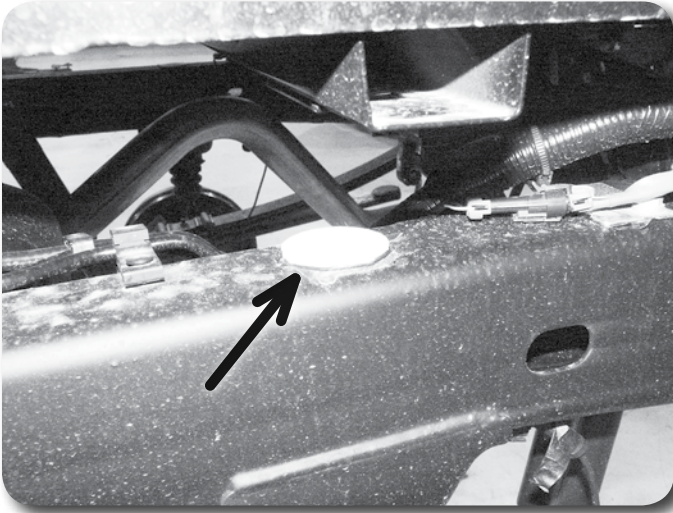
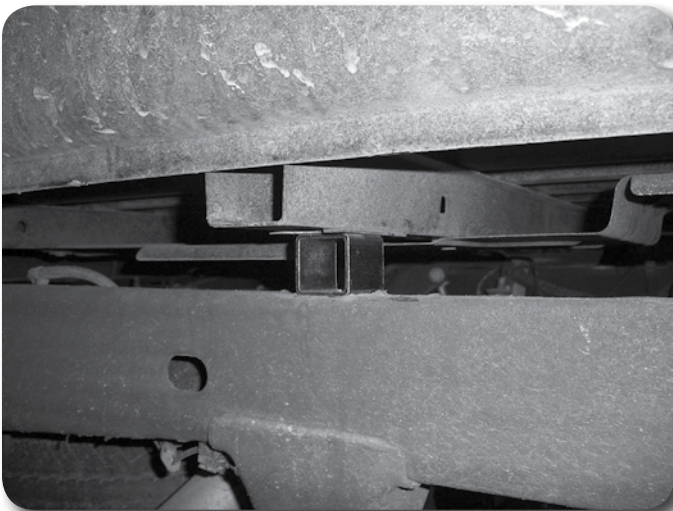

Figure 23A
Figure 23B
4. Remove the plastic bed pads **Figure 23A** where the bed crossmember rested on the frame at the rear wheel well (one per side). Install the provided rectangular steel bed spacers where the plastic pads were located and fasten with a 5/16" x 1" self-tapping bolt and 5/16" USS washer in the existing frame hole **Figure 23B** Torque bolt to approximately 15 ft-lbs.